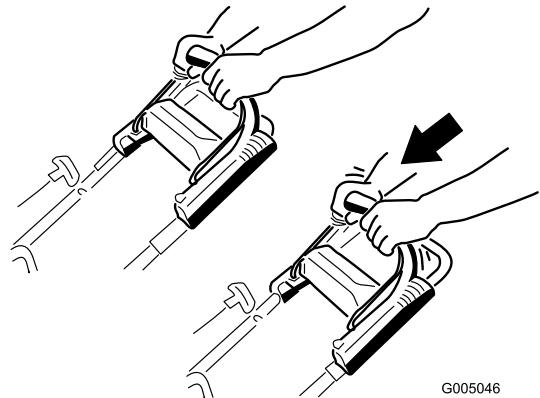

**Figure 12**
2. Pull the recoil starter lightly until you feel resistance, then pull it sharply (Figure 12). Allow the rope to return to the handle slowly.